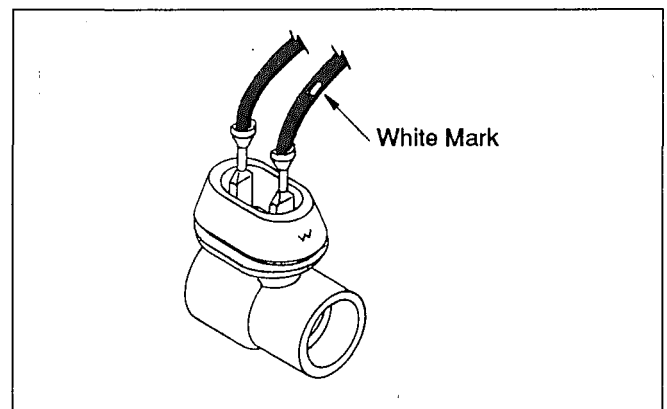

Figure B17 - Interior Light Socket
2. Remove the lid insulation to expose the socket, and disconnect the wire leads. Note the wire lead with the white mark. See Figure B17. The marked wire lead must be connected to the terminal nearest the "W" on the socket, to maintain correct polarity.